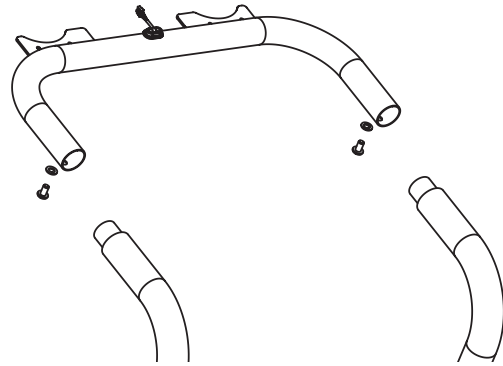

Figure 4: Top Rail Assembly
4. Attach the top rail to the left and right uprights using 2 Allen Bolts M5\*15 and 2 Arc Washers. You may now firmly tighten all hardware. Refer to Figure 4.